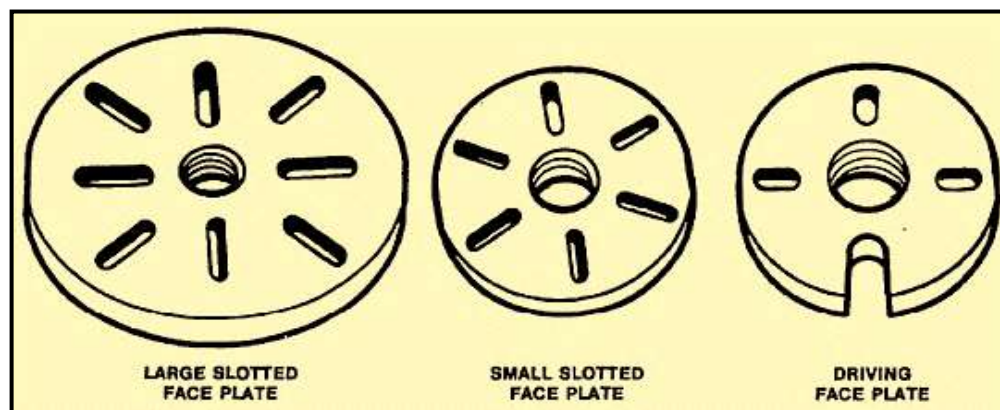

Figure 7-23. Faceplates.
**The Lathe Faceplate:** Is a flat, round plate that threads to the headstock spindle of the lathe. The faceplate is used for irregularly shaped workpieces that cannot be successfully held by chucks or mounted between centers, valuable for mounting workpieces, in which an eccentric hole or projection is to be machined. The workpiece is either attached to the faceplate using angle plates or brackets or bolted directly to the plate. Radial T-slots in the faceplate surface facilitate mounting workpieces. (Figure 7-23).